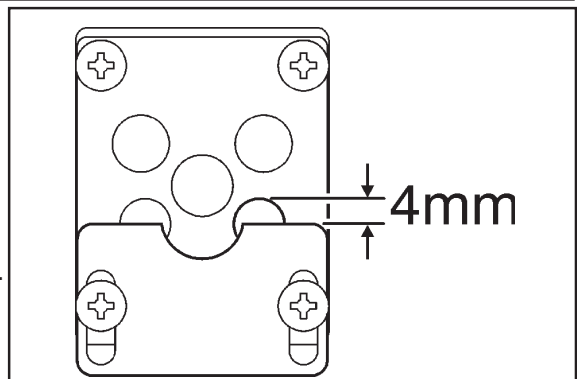

Figure 34. Aeration shutter setting
1. The aeration shutter is factory set and should not require adjustment. If the shutter is not as shown in figure 34 and requires adjustment, loosen the two aeration shutter screws, slide the aeration shutter to the position shown in figure 34 and tighten the fixing screws.